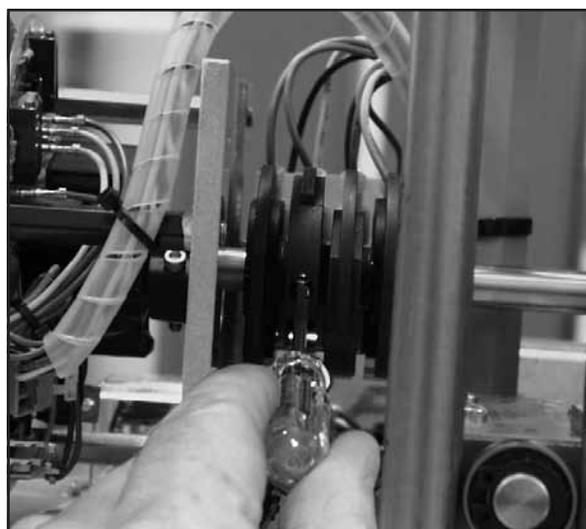

Figure 5
2. Use the electric Handswitch to drive the control shaft so that the EXT switch cam is accessible. Using a 7/64" hex wrench, loosen the screw so that the cam is just snug to the shaft. See Figure 5, page 22.